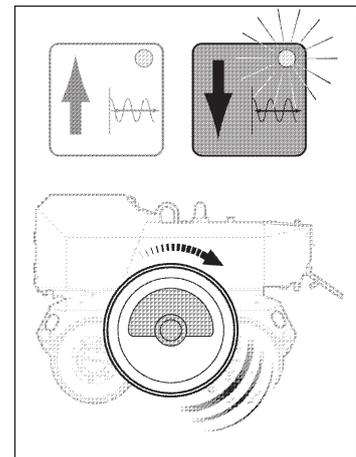

Fig. MB5: Vibration reverse
- ➔ Switch the vibration function to backward (Fig. MB5).